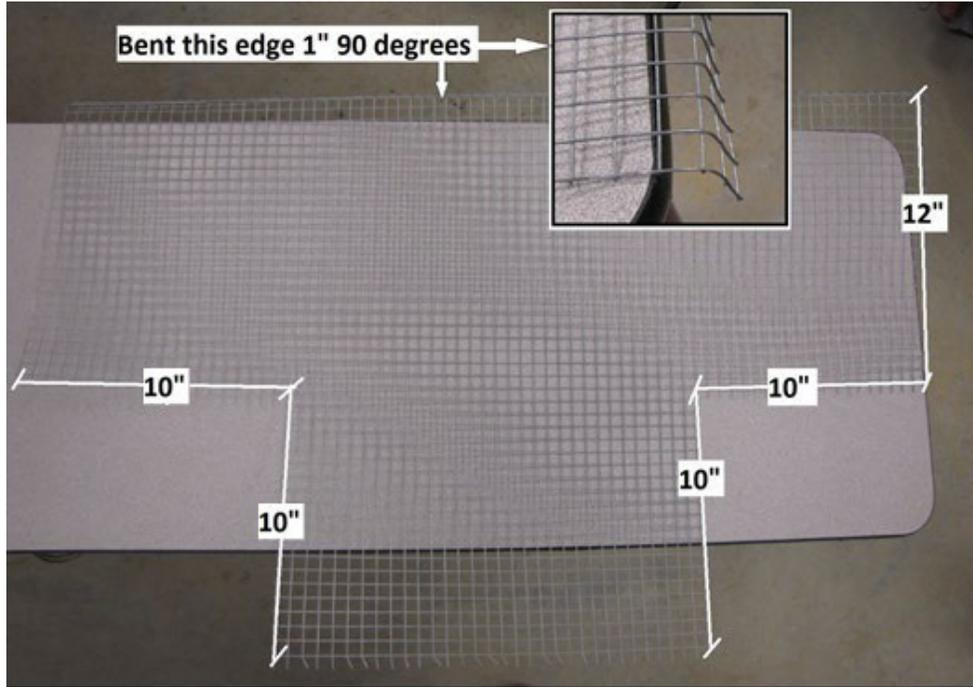

Figure 1-28
b. Then cut as shown below (Figure 1-28).